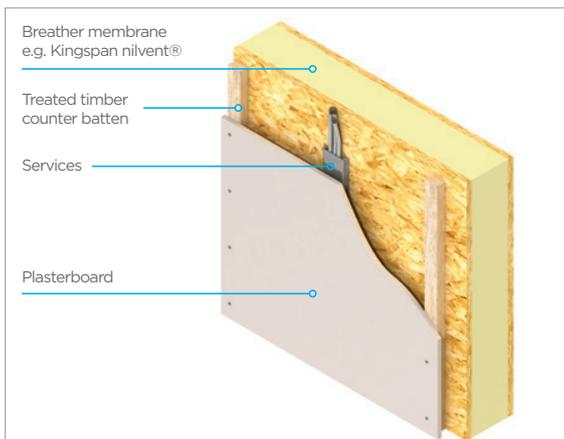

FIGURE 5
- a single layer of min. 12.5 mm plasterboard on min. 25 mm deep by 50 mm wide vertical timber battens (see Figure 5); or